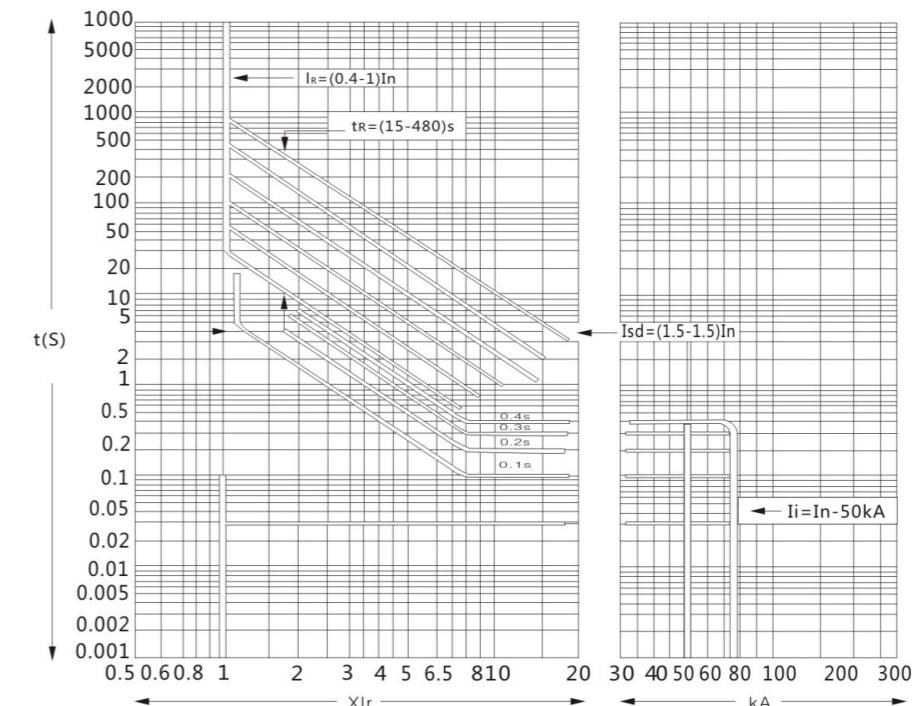

Figure 1 Overcurrent release protection characteristic curve
5.1 The characteristic curve of overcurrent release protection is shown in Figure 1, and the characteristic curve of ground fault protection is shown in Figure 2.